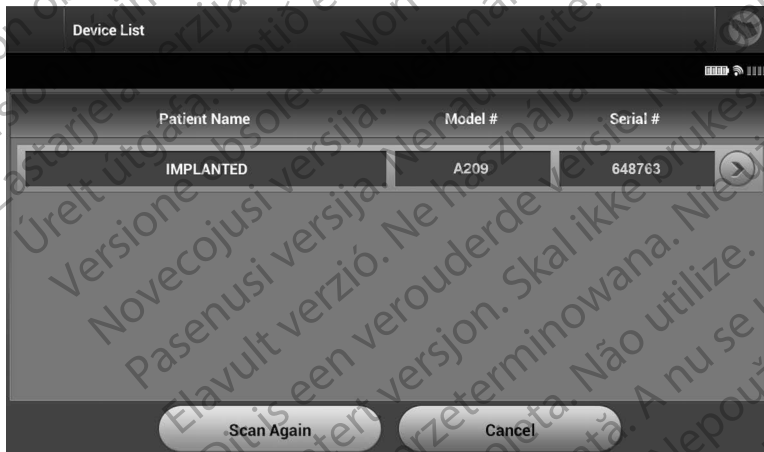

Figure 7: *Device List screen (scrollable list)*
2. When the scanning process is complete, a list of all pulse generators detected (up to 16) will be displayed on the Device List screen (Figure 7). The devices that are in Shelf mode will be displayed as “Not Implanted.” Any devices that were previously taken out of Shelf mode are displayed either as “Implanted” or with the stored patient name.
Select the desired pulse generator from the Device List screen (Figure 7) to initiate the communication session.